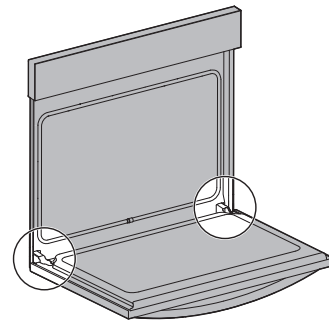

Figure 23: Door hinge location
1. Open oven door completely, horizontal with floor (Figure 23).
3. Fully open the oven door, horizontal with floor (Figure 23).